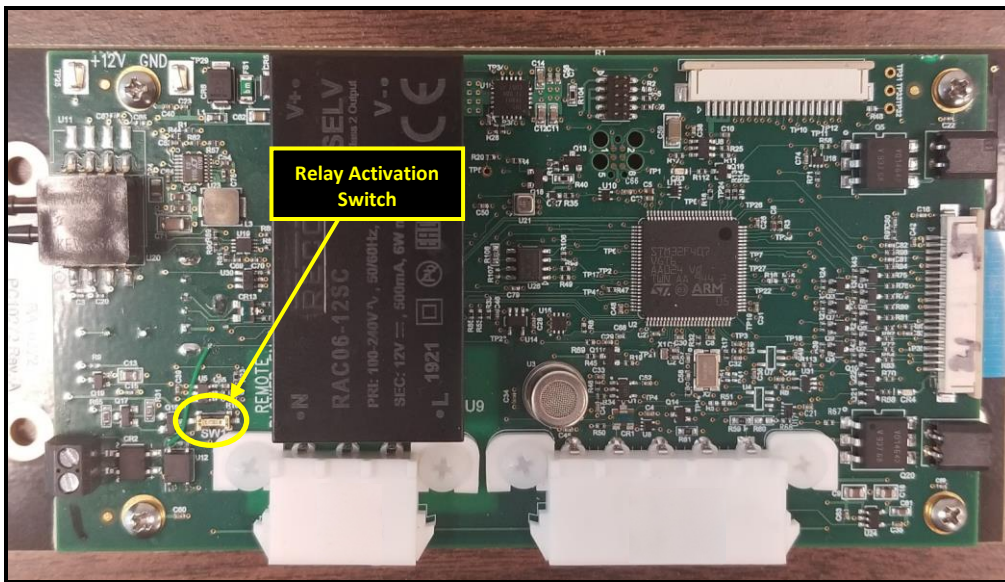

Figure 2
3. Locate relay activation switch on the rear of the control panel as shown in Figure 2.
4. Flip the Relay Activation Switch to the “OFF” position as indicated in Figure 2.